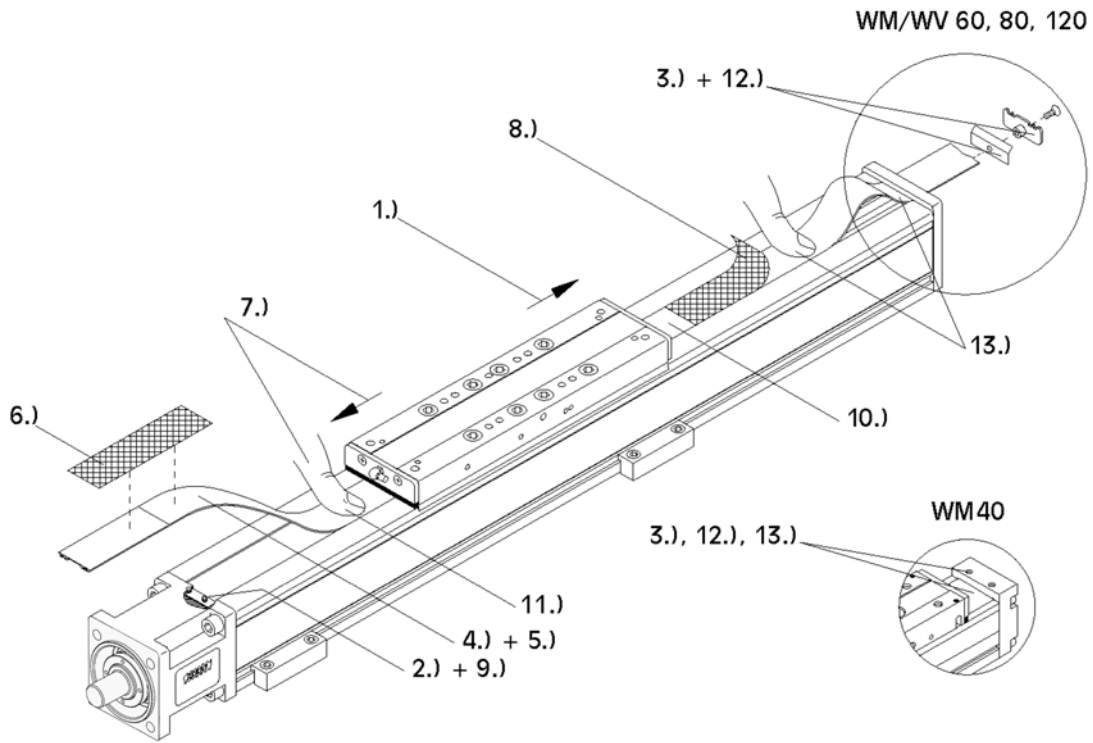

Fig. 15: Replacing the cover strip
1. **Fig. 15:** Move the sliding carriage to the backward end position (movable bearing side).